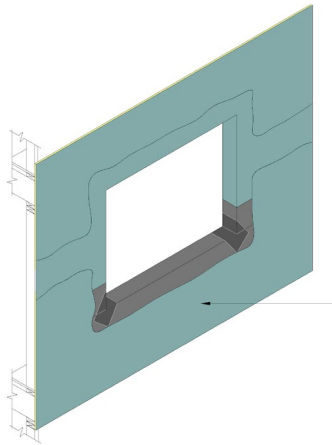

Figure 12
- 4) Install the specified component (i.e. window, etc.) and associated flashings per manufacturer's directions and contract documents. Then apply Backstop NT – Texture, Smooth or Spray to the remainder of the wall surface as described in Section IV.B and lap over the previously installed material around openings – Figure 12.